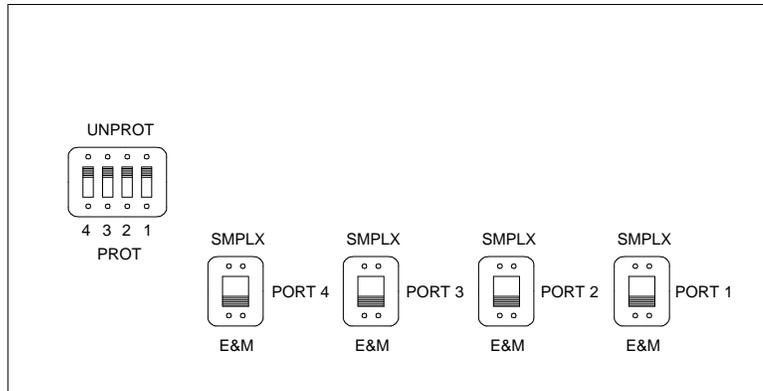

Figure 4-44. TN760 Tie Trunk Circuit Pack (Component Side)
3. For customer-owned (not -leased) tie-trunk facilities (such as campus environments), TN760 circuit packs provide signaling capabilities beyond those specified by the industry-wide E&M standard. Use Figure 4-44 and Table 4-10 to choose the preferred signaling format, set switches on the TN760 circuit pack, and administer the port.